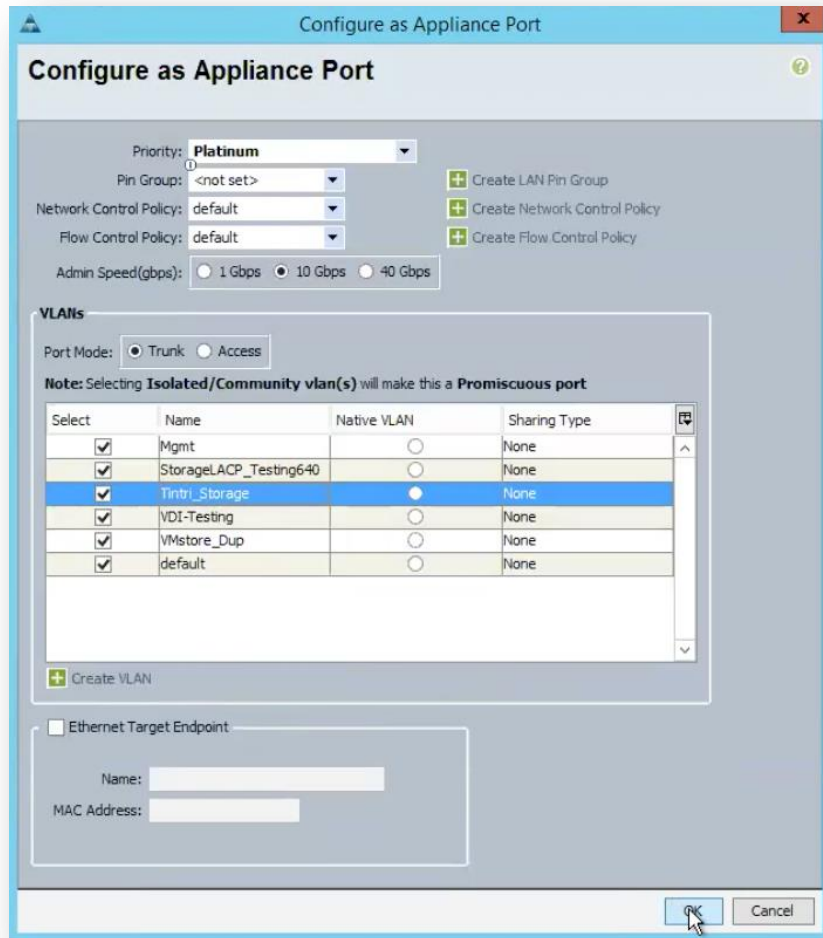

Figure 7 – Completed dialog for configuring an Appliance Port in Cisco UCS Manager.
3. For each port, access the context-sensitive menu, select “Configure as Appliance Port”, and complete the dialog using the following settings (See Figure 7):